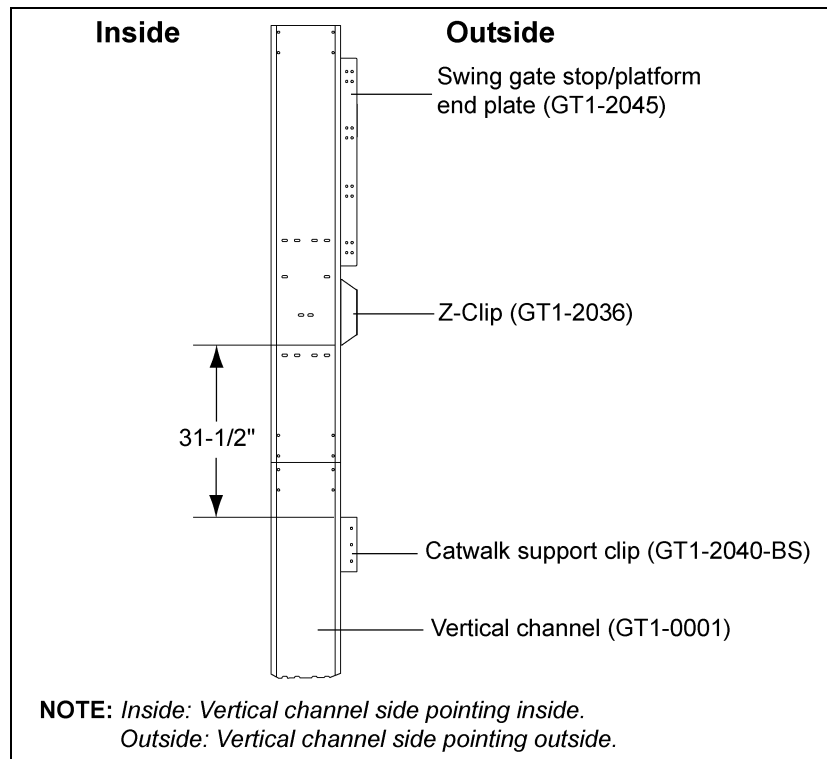

Figure 4F
2. The distance between the Z-clip and support clip for 12' outside catwalk is 31-1/2". (See Figure 4F.)